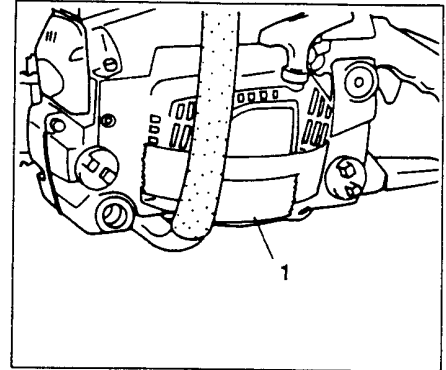

Fig. 3-12B
When the unit is used in very cold weather, it is advisable to cover the slits of the halfway down of recoil starter side with glue tape (1) so that snow dust will not get into fan case. (Fig. 3-12B)